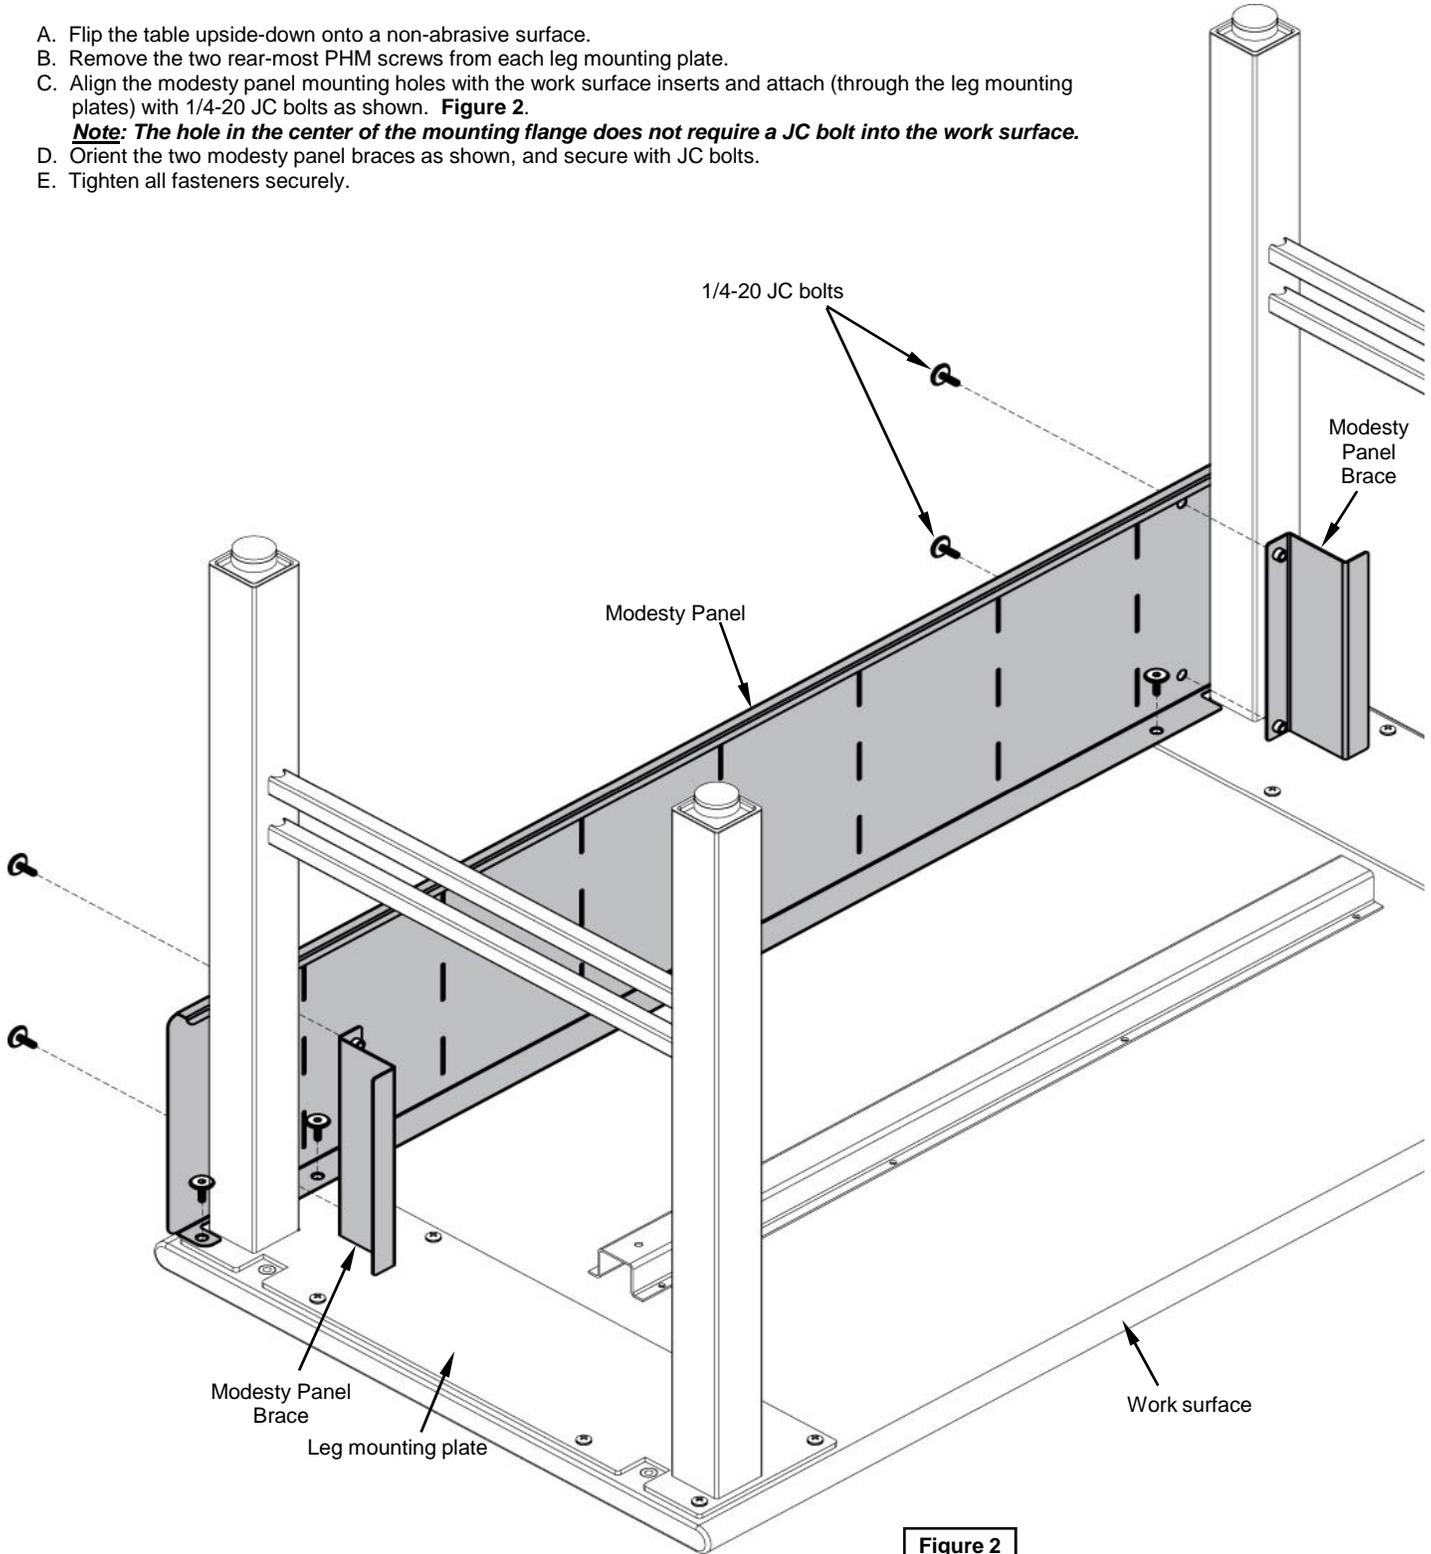

Figure 2
- C. Align the modesty panel mounting holes with the work surface inserts and attach (through the leg mounting plates) with 1/4-20 JC bolts as shown. **Figure 2.**